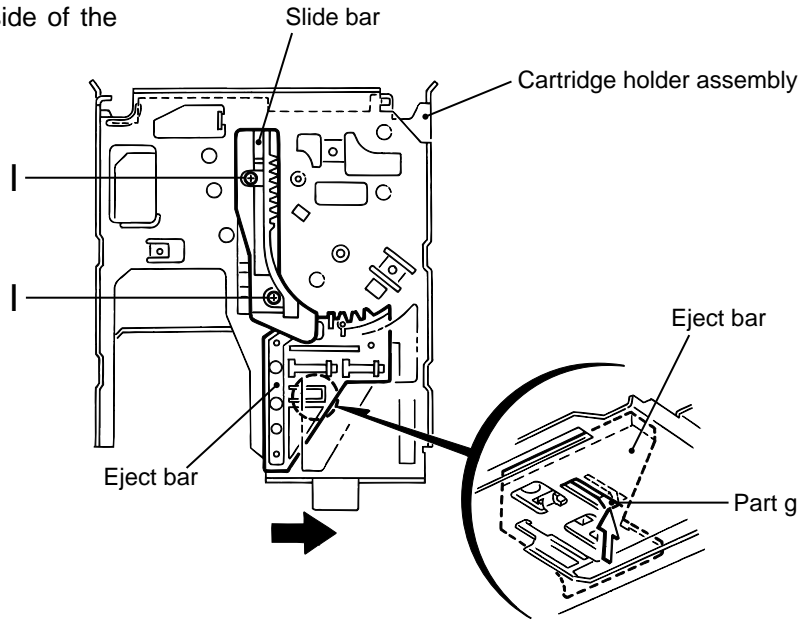

Fig.14
(See Fig.14 and 15)**
2. Move the eject bar outward until it stops as shown in Fig.14. Push the convex part g on the bottom of the body and remove the eject bar from the chassis.